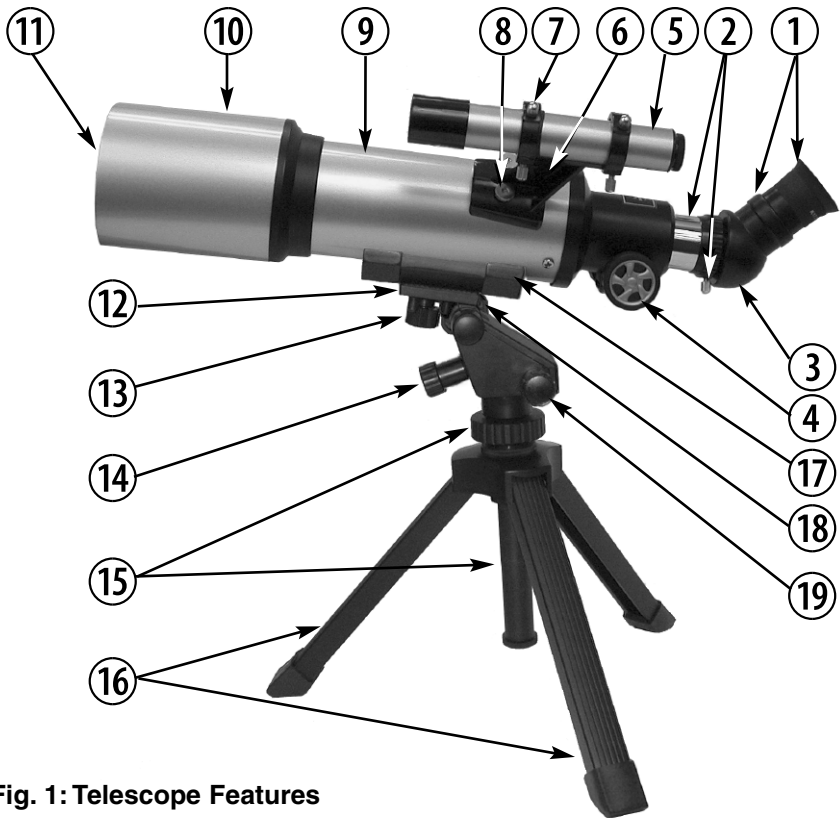

Fig. 1: Telescope Features
Numbers in parentheses refer to Fig. 1.
4. Place the viewfinder holder **(6)** over the two bolts **(8)** on the optical tube **(9)**. See Fig. 1 for the orientation of the holder. Thread the viewfinder holder thumbscrews **(8)** over the bolts and tighten to a firm feel.